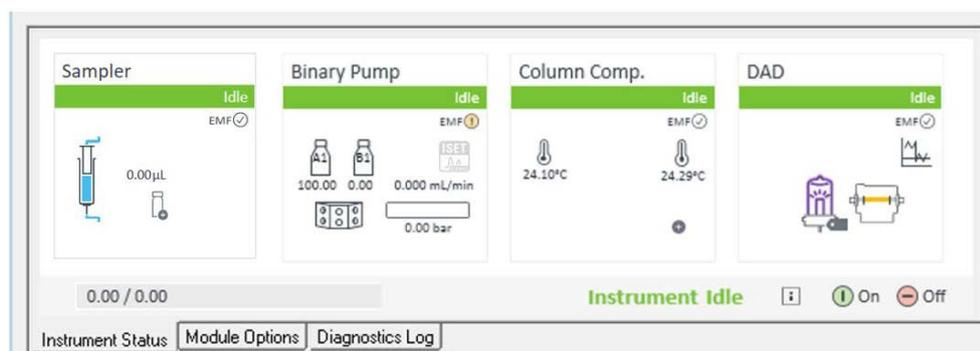

Figure 9 ISET in LC Status Dashboard in Empower - inactive
- If ISET is available, but not enabled, the ISET pictogram in LC status dashboard is grey (see Figure 9 on page 10)